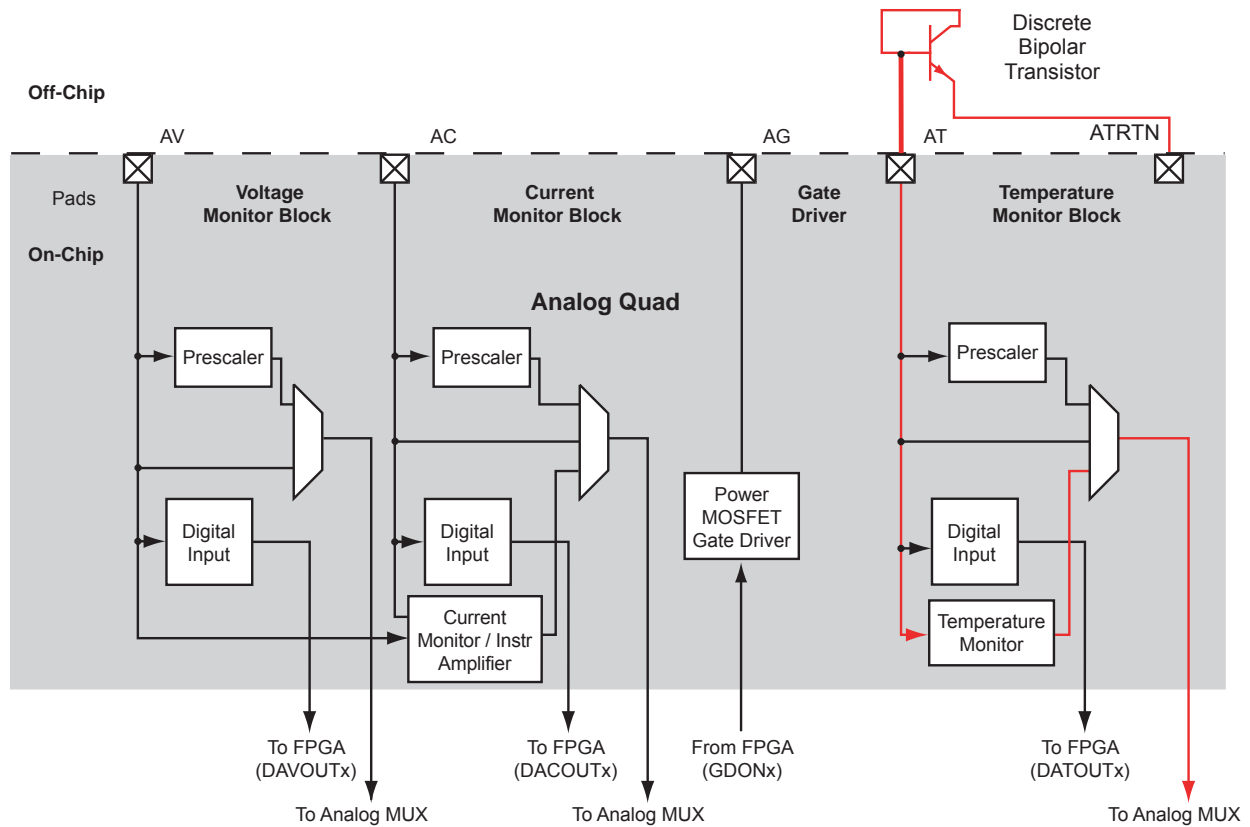

Figure 2-74 • Temperature Monitor Quad
The final pin in the Analog Quad is the Analog Temperature (AT) pin. The AT pin is used to implement an accurate temperature monitor in conjunction with an external diode-connected bipolar transistor (Figure 2-74). For improved temperature measurement accuracy, it is important to use the ATRTN pin for the return path of the current sourced by the AT pin. Each ATRTN pin is shared between two adjacent Analog Quads. Additionally, if not used for temperature monitoring, the AT pin can provide functionality similar to that of the AV pad. However, in this mode only positive voltages can be applied to the AT pin, and only two prescaler factors are available (16 V and 4 V ranges—refer to Table 2-57 on page 2-132).